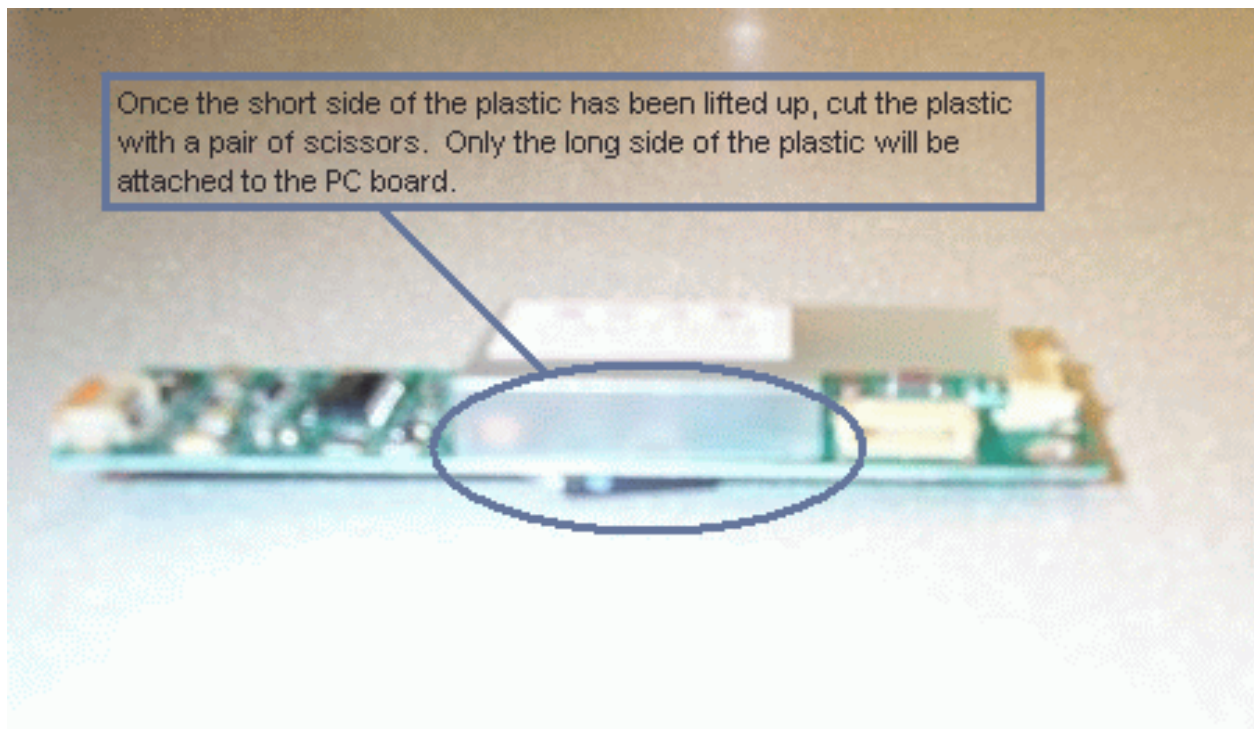

Figure 2
- 2) Cut the plastic with a pair of scissors. See Figure 2.